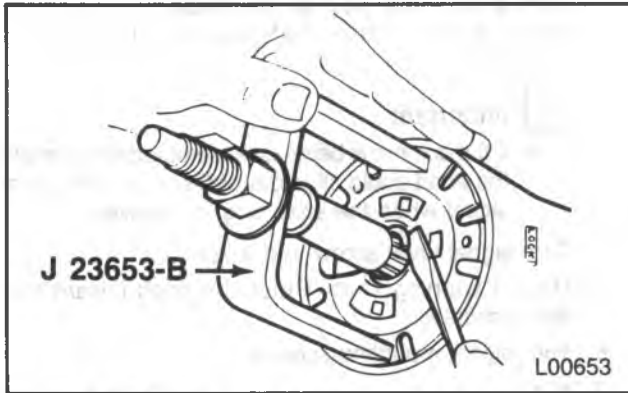

Figure 11 — Retaining Ring Removal
Remove or Disconnect (Figures 11 through 13)
- Screw the center post of J 23653-B onto the steering shaft as far as it will go. Compress the lock plate by turning the center post nut clockwise. Pry the retaining ring out of the shaft (figure 11). Remove J 23653-B.